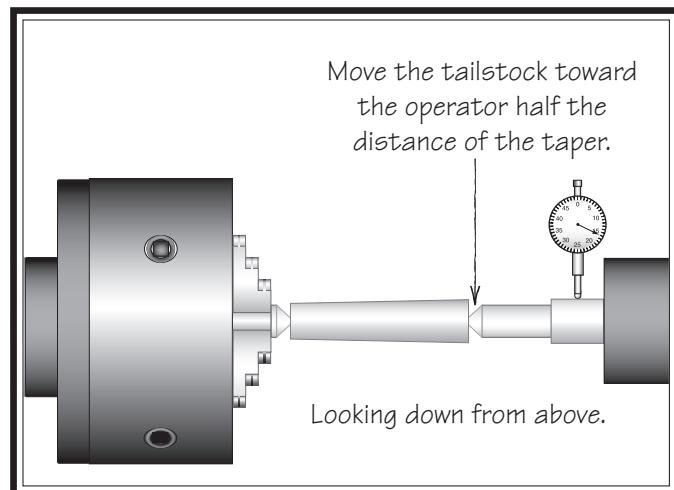

**Figure 60. Example of round stock mounted between the centers.**
6. Attach a lathe dog to the piece of stock from **Step 3**, then mount it between the centers, as shown in **Figure 60**.